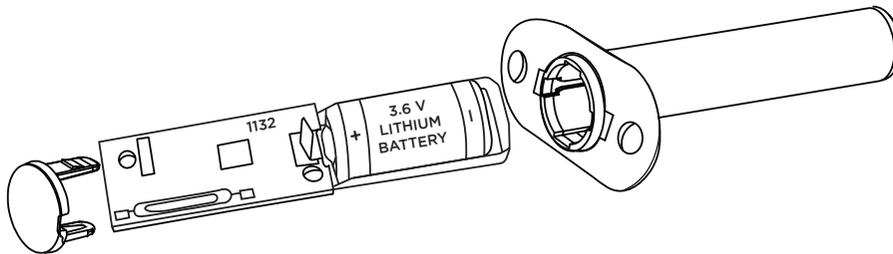

Figure 1: Assembling the Housing
4. Wait for 20 seconds before installing the new battery. Place the 3.6 V lithium battery in the holder as shown in Figure 1.